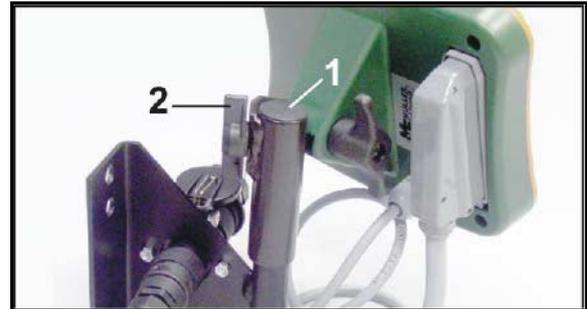

Fig. 71
1. Insert the counterpiece (Fig. 71/1) into the console and secure with the thumb screw (Fig. 71/2).